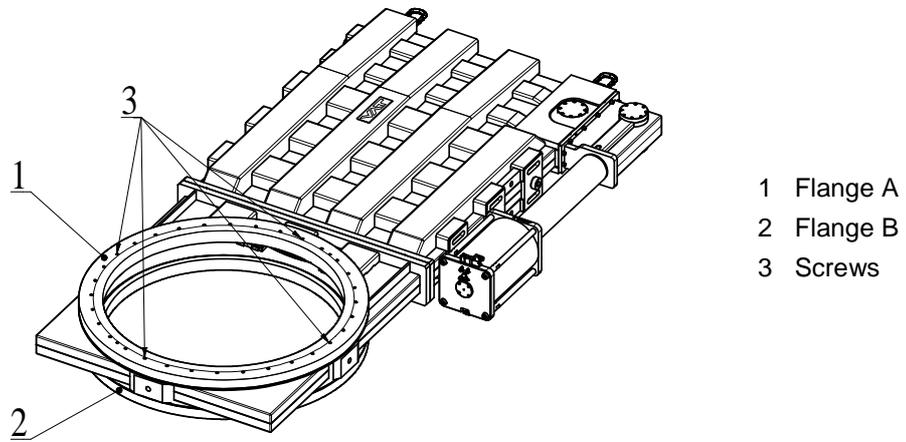

Figure 4-2
2. Clean sealing surfaces and seals of both flanges; see (1) and (2) according to «Figure 4-2» on page 11.
4. Mount the four screws (3) according to «Figure 4-2» on page 11, evenly in crosswise order until the seal touches the sealing surface.